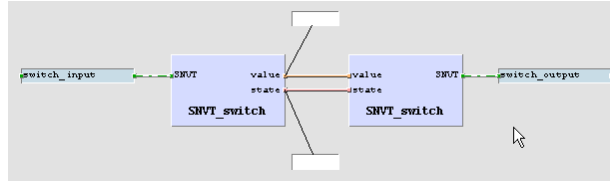

Figure 74: Online Test fields
- Place the fields above and below the drawing as shown in Figure 74, then press the **Save** button to save your changes.